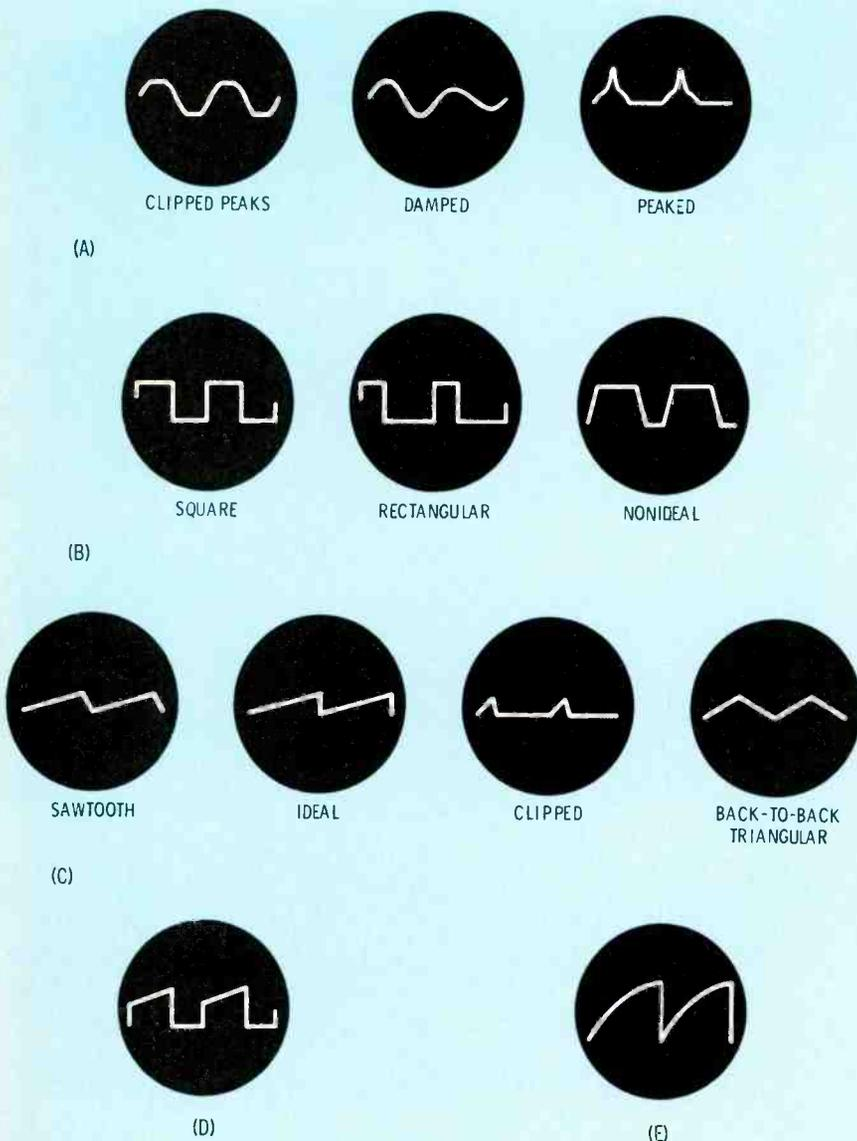
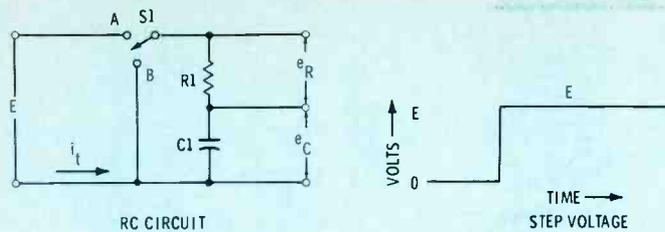
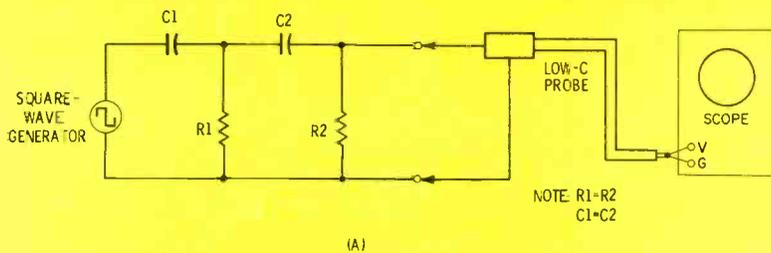

Fig. 14 Basic waveforms.
Fig. 15 Basic exponential waveforms.
Fig. 18 The basic symmetrical cascaded differentiating circuit.
A familiar exponential wave (E) appears among the basic waveforms illustrated in Fig. 14. In various situations, complex waveforms are analyzed to best advantage as combinations of exponential waves. For example, it is much easier to evaluate a sync-pulse waveform in terms of exponential waves than in terms of sine waves. Fig. 15 shows a series RC circuit energized by DC voltage through an on and short-circuit switch. Voltage e_R is called a differentiated waveform, and voltage e_C is called an integrated waveform.
Another type of RC circuitry found in some TV sync systems consists of two differentiating circuits connected in cascade, as shown in Fig. 18. Tube isolation is not present in this case, and the second section loads the first section. In turn, the combination of exponential waveforms is somewhat different; sharper differentiation and less undershoot are the result. All symmetrical RC circuits of this type produce the same waveshape. Next, we will find that waveforms such as depicted in Figs. 15, 16, 17, and